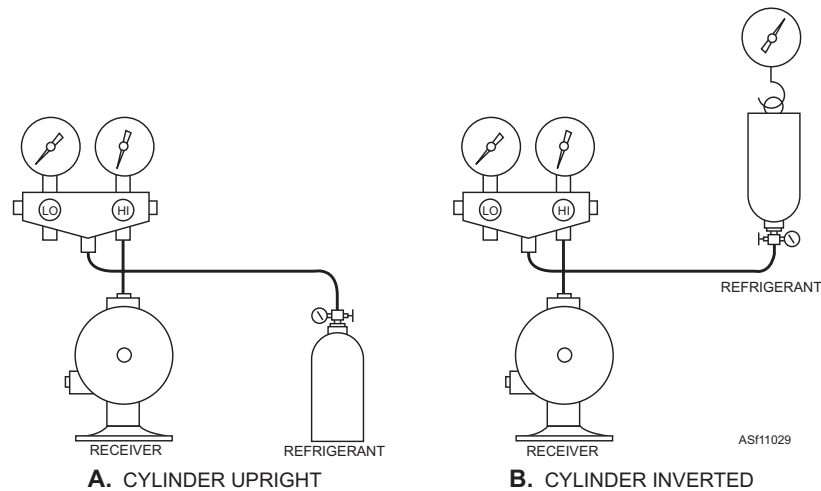

Figure 11-29.—Connections for low-side charging.
1. Connect a hose between the center connection of the manifold test set and the cylinder of refrigerant (fig. 11-29, view A). If using a single port/single access valve cylinder, the cylinder should be in the upright position at this point in the procedure. Tighten both connections.
6. Invert the cylinder of refrigerant, and hang it from a scale (fig. 11-29, view B). Record the weight of the cylinder. (You will normally have a hanging scale available for this purpose, but, alternatively, you can use a platform scale.)